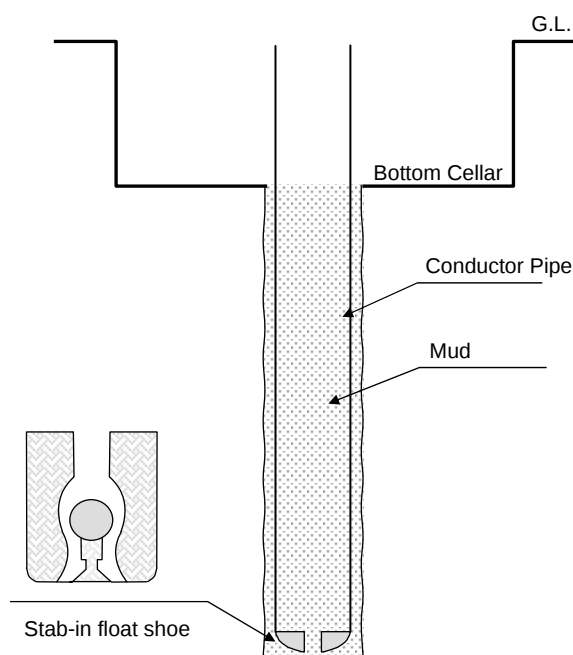

Figure 2-2: Conductor Pipe at Bottom Prior to Cementing
- Conduct cement job immediately after running the pipe Figure 2-2.